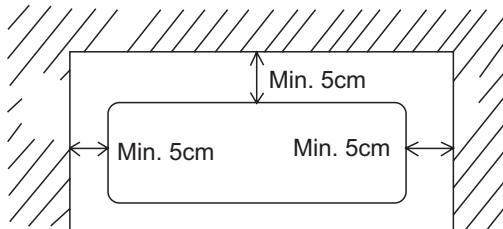

Figure 1
- Having desired space around the appliance for maintenance and ventilation.(Figure 1)